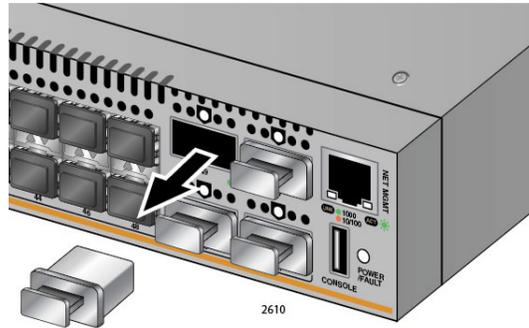

Figure 35. Removing QSFP+ Slot Dust Cover
2. Remove the dust cover from the chassis QSFP+ slot. See Figure 35 on page 64.